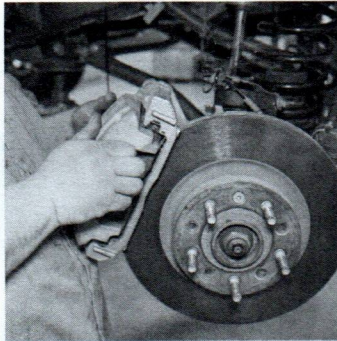

Figure 24. Brake Caliper Installation
31. Re-install the brake rotors and calipers. Torque the brake rotor screw to 15 ft-lb. We recommend cleaning all the brake caliper bolts with brake cleaner and a wire brush, and then using high strength thread locker on installation. Tighten caliper mounting bolts to 148 lb-ft. **See Figure 24.**